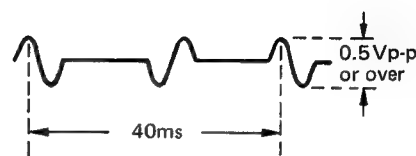

Figure 8-7.
2. Monitoring Aj pin 3 with an oscilloscope (internal trigger), check that the requirements given in Figure 8-7 are met.